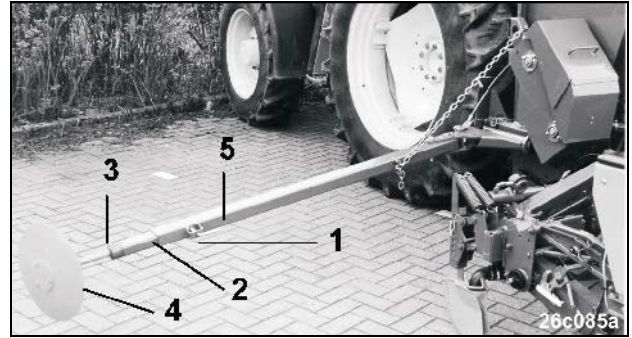

Fig. 99
- Pull the sprung loaded trip (Fig. 99/1) and pull out the telescopic marker arm tube (Fig. 99/2) until the trip catches for the first time.
- Pull again the sprung loaded trip (Fig. 99/1) and pull out the telescopic marker arm tube (Fig. 99/2) further until the trip catches again.
- Slacken the clamping bolt (Fig. 99/3), pull out the marker disc (Fig. 99/4) and turn if necessary to vary the working intensity that on light soils they follow about parallel with the direction of operation on heavy soils move them to provide more angle "on grip", so that they work more aggressive and create a clearly visible mark.